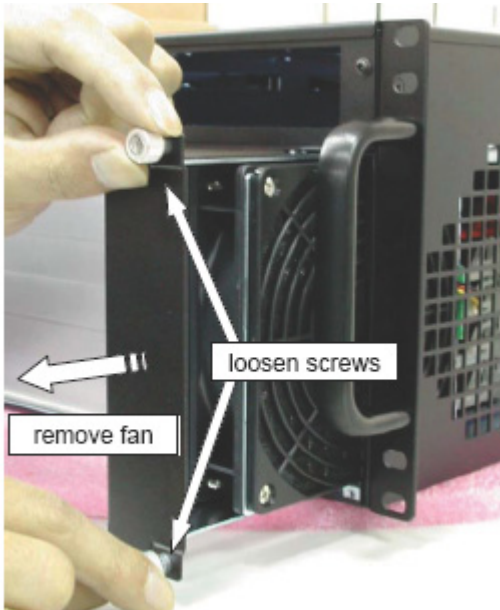

Figure 4-3: Remove the front-access intake fan module
1. Remove the front-access intake fan module as shown in Figure 4.3 above.